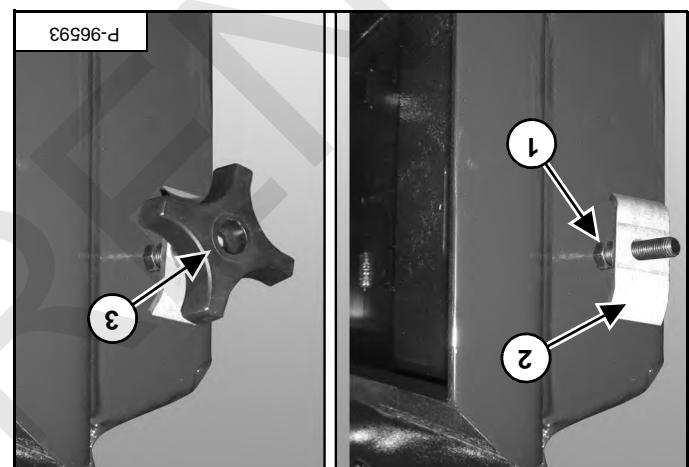

Figure 6
Install the mounting frame on the machine's Bob-Tach. Align the bolt collar with the opening. Install the square opening and align the carriage bolt through the square opening and onto the carriage bolt. Tighten the knob (item 3) [Figure 6] onto the clamp (item 2) and knob (item 3) [Figure 6].
Pull the carriage bolt through the square opening and align the bolt collar with the opening. Install the square opening and align the carriage bolt through the square opening and onto the carriage bolt. Tighten the knob (item 3) [Figure 6] onto the clamp (item 2) and knob (item 3) [Figure 6].